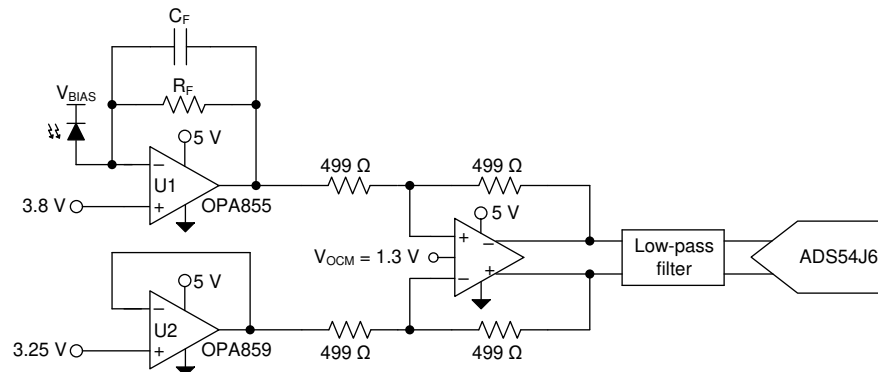
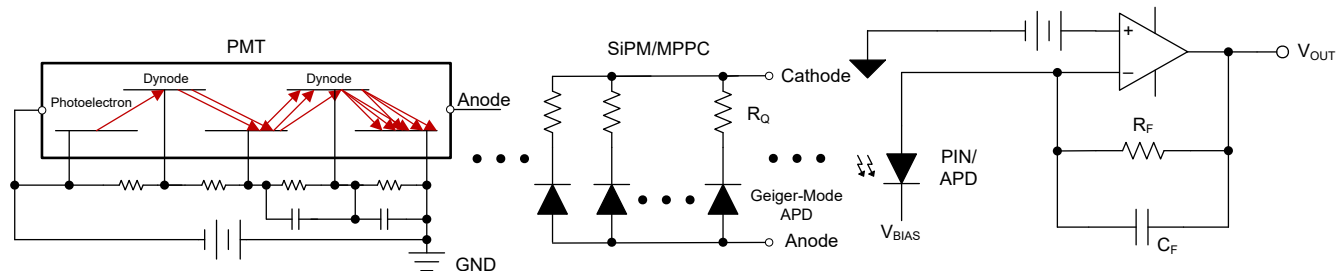

Figure 9-1. OPA855 as a TIA in an Optical Front-End System
Figure 9-5. Transimpedance Amplifier With APD or SiPM/MPPC or PMT Inputs
Figure 9-1 shows the OPA855 configured as a transimpedance amplifier (U1) in a wide-bandwidth, optical front-end system. A second amplifier, the OPA859-Q1, configured as a unity-gain buffer (U2) sets a dc offset voltage to the THS4520. The THS4520 is used to convert the single-ended transimpedance output of the OPA855 into a differential output signal. The THS4520 drives the input of the ADS54J64, 14-bit, 1-GSPS analog-to-digital converter (ADC) that digitizes the analog signal.
Figure 9-1 shows the OPA855 configured as a TIA, with the avalanche photodiode (APD) reverse biased so that the APD cathode is tied to a large positive bias voltage. In this configuration, the APD sources current into the op amp feedback loop so that the output swings in a negative direction relative to the input common-mode voltage. To maximize the output swing in the negative direction, the OPA855 common-mode voltage is set close to the positive limit; only 1.2 V from the positive supply rail. The feedback resistance (R_F) and the input capacitance (C_{IN}) form a zero in the noise gain that results in instability if left unchecked. To counteract the effect of the zero, a pole is inserted into the noise gain transfer function by adding the feedback capacitor (C_F).
OPA855 offers 8 GHz of gain bandwidth, high slew-rate, and low noise which makes this device an excellent for a wide range of photodetectors. Figure 9-5 shows the OPA855 configured as a transimpedance amplifier (TIA) in a wide-bandwidth, optical front-end system. Various types of optical sensors can be used as an optical input to the amplifier: photodiode (PD), avalanche photodiode (APD), photomultiplier tube (PMT), and multipixel photon counter (MPPC) or known as solid-state photomultiplier (SiPM). Optical detection applications have commonly used APDs, but ultra-low light source detection has been a challenge in past options. With technologies such as PMTs and MPPCs, the high intrinsic gain, while maintaining a fast output, requires a low noise, high-speed interface. The OPA855 can accommodate for these optical challenges and can work equally as well in these applications.
Figure 9-5 shows the OPA855 configured as a TIA, with the optical sensor reverse biased so that the diode cathode is tied to the positive bias voltage. A RC filter can be used at the reverse bias node as a low-pass filter to eliminate high-frequency noise. The internal capacitance of photodetectors vary based on sensor type and the value of the applied reverse voltage. The setups between each sensor type slightly differs, but the connection to the amplifier is consistent throughout.
The dc voltage bias at the noninverting input of the OPA855 shown in Figure 9-5 sets the common-mode voltage which maximizes the output swing of the system in mismatched power supply configurations. The dc bias is critical to avoid clipping or saturating the output stage of the amplifier. For the later stages, a fully differential amplifier (FDA) can be used to convert single-ended signal to a differential input to drive an analog-to-digital converter (ADC) as shown in Figure 9-1. Higher order filters can be added between the FDA and ADC for system noise reduction.